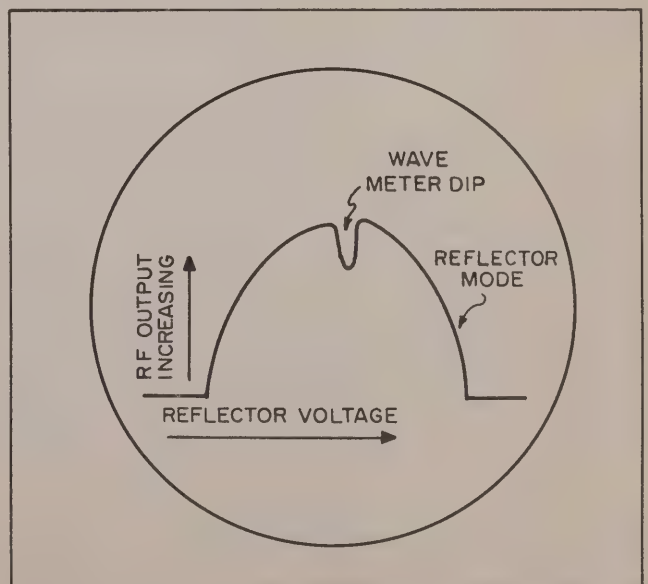

Figure 7-8. Typical Mode Trace
- Measure the frequency at center of trace. This frequency should be 8300 mc - 8500 mc. (See figure 7-8.)
f. Set the wavemeter to 9050 mc and vary the RF FREQ control until the dip is set to the center of the mode. (See figure 7-8.) Note the position of the RF FREQ control.